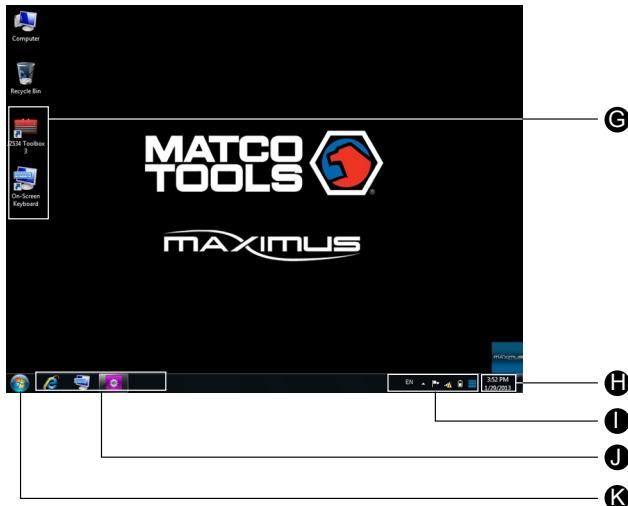

Fig. 2-4
1. The working area of diagnosis platform consists of 6 parts as indicated on Fig.2-4.
2. Click  to enter Windows 7 operating system. Please refer to Fig. 2-4.